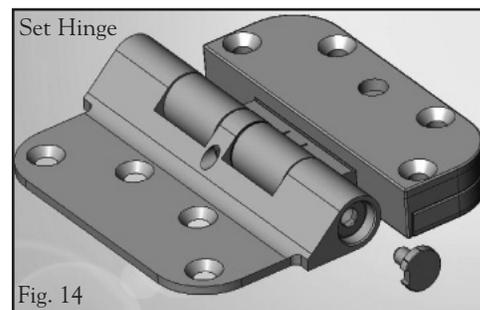

Fig. 14
Once proper positioning has been determined, re-seat the screw(s) in the strike plate. Pre-drill the sill, through remaining holes, with a 3/16" (5mm) diameter clearance hole. Then drill a 7/64" (3mm) lead hole into the underlying floor system through the clearance hole. Apply a bead of sealant to each of the holes and lock the strike plate in place with the #10 x 3" (78mm) phillips flat head screw (Fig. 14). Make sure all screw heads are properly seated.
See **Fig. 14**. To do a vertical adjustment on the set hinge, carefully remove the finial cap from the bottom of the hinge pin (use a putty knife or flat head screwdriver for brass or painted hinges if needed). Using a 3/16" (5mm) Allen wrench turn the adjustment screw clockwise (tighten screw) to move the panel up and turn the screw counterclockwise (loosen screw) to move the panel down until the panel is properly adjusted. If the unit has four hinges it will have two (2) set hinges, which requires both hinges be adjusted simultaneously and at the same increments to prevent the hinges from binding. Once you are done doing adjustments re-apply the finial cap.